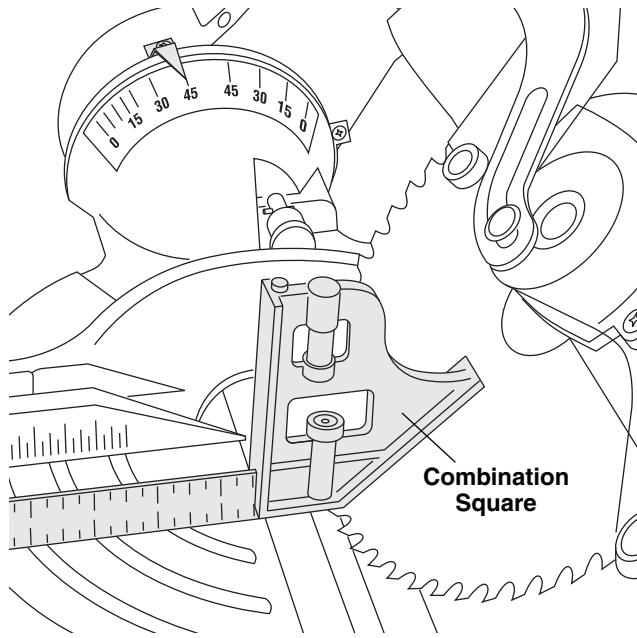

Figure 1. Right 45° Bevel Stop
3. Position combination square with 45° surface against blade. (Figure 1)